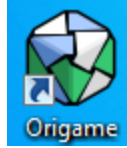

Fig. 3.3: Start Origame by double-clicking the application icon.
1. Double-clicking the Origame icon, shown in Figure 3.3,